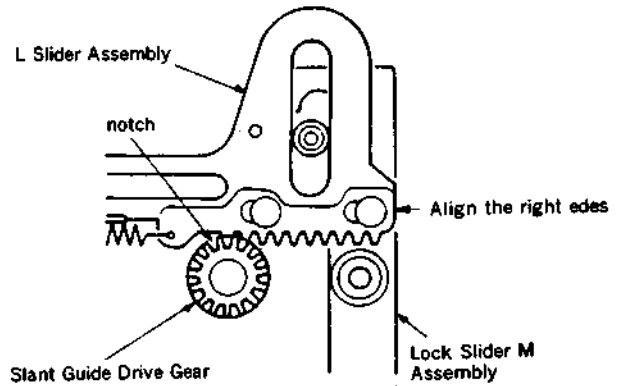

Fig. 4
(3) Press the L-mode select button of the Mode Selector and align the right edges of the L Slider Assembly and the Lock Slider M Assembly. (fig. 4)
(4) Engage the Slant Guide Drive Gear with L Slider Assembly so that the notch of the Drive Gear is 1 tooth away from the left and gear of the L Slider Assembly as shown in the figure 4.
(5) Assemble the parts with Removal Steps (1) to (5) in reverse order.